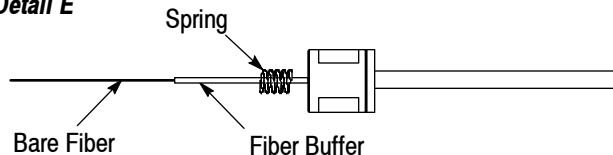

Figure 5
6. Place the crimp sleeve in the 8.6-mm hex nest of the hand tool, and crimp the crimp sleeve onto the crimp support. Make sure to position the crimp sleeve in the hex nest so that the crimp will locate from the back of the crimp sleeve to within the dimension shown in Figure 5, Detail A.
7. Using the micrometer or caliper, measure the crimp sleeve across the flats of the hex crimp to make sure that it conforms to the crimp height and crimp width shown in Figure 5, Detail B.
8. At the back of the crimp support, apply the instant adhesive around the circumference of the crimp support at the junction of the cable and the crimp support. Then at the front of the crimp sleeve, apply the instant adhesive over the opening of the crimp sleeve to encapsulate the strength members. See Figure 5, Detail C. Remove any excess adhesive.
9. Mark the fiber at the dimension shown in Figure 5, Detail D, and using the fiber stripping tool, strip the buffer to the mark, exposing the bare fiber. Using a lint-free tissue or cloth dampened with the isopropyl alcohol or acetone, clean the bare fiber.
10. Slide the spring onto the fiber buffer. See Figure 5, Detail E.